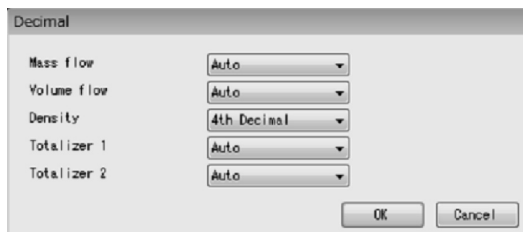

Fig.84
- ① Click the "Setup (S)" menu, and then select and click "Decimal" from the "LCD" drop-down list.
- ② The following window will be displayed (Fig. 84). Set the decimal point position to be used for measurement values displayed on the LCD here.